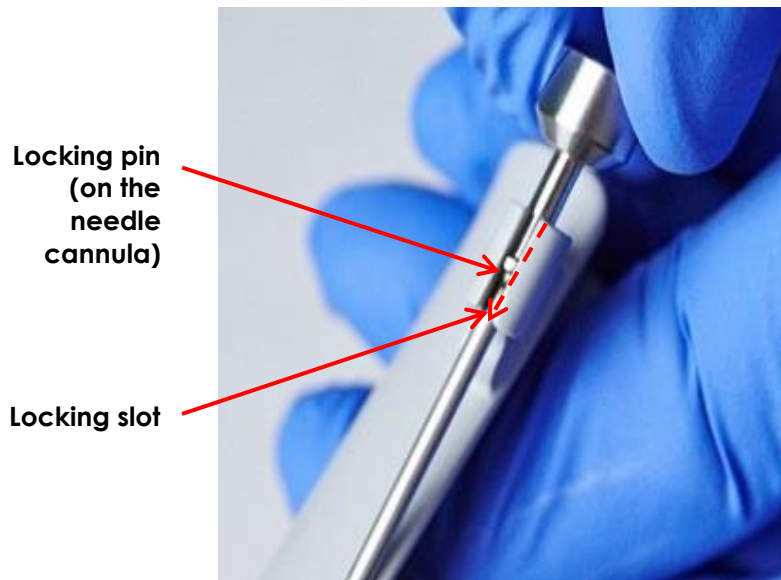

Figure 7: Lock the Needle Cannula
2. Align the locking pin with the *locking slot* on the *plastic enclosure* and slide it through the entire *locking slot* (refer to Figure 7).